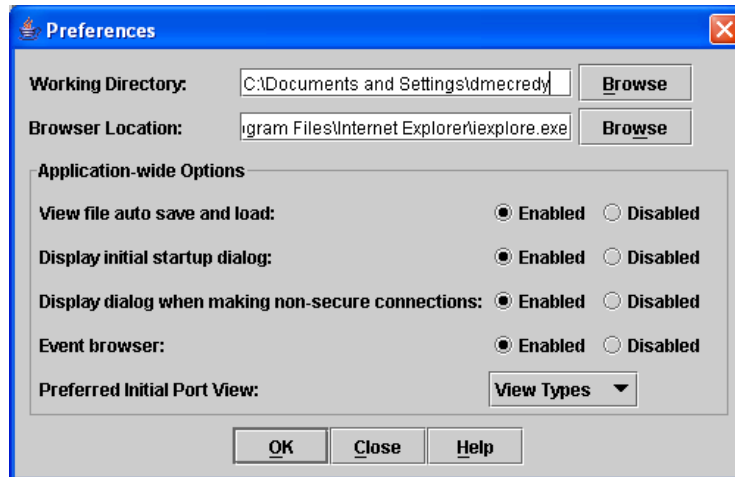

Figure 2-5. Preferences Dialog – SANsurfer Switch Manager
- Enable (default) or disable the Event Browser. Refer to “Displaying the Event Browser” on page 3-11. If the Event Browser is enabled using the Preferences dialog as shown in Figure 2-5, the next time SANsurfer Switch Manager is started, all events will be displayed. If the Event Browser is disabled when SANsurfer Switch Manager is started and later enabled, only those events from the time the Event Browser was enabled and forward will be displayed.
1. Open the File menu, and select **Preferences** to open the Preferences dialog as shown in Figure 2-5.